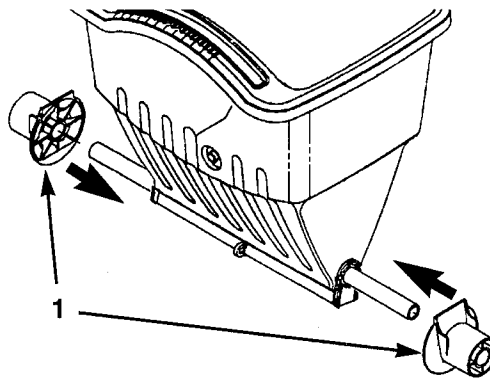

Figure 6
5. Slide the two axle supports onto each end of the axle (Fig. 6 or 7).